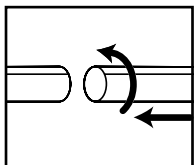

FIGURE 13
17. Attach the extension wands to the accessory end of the hose. Twist slightly to tighten the connection. **FIGURE 13.**
18. Attach one of the cleaning accessories (depending on your cleaning requirements) on the extension wands. Twist slightly to tighten the connection. **FIGURE 13.**